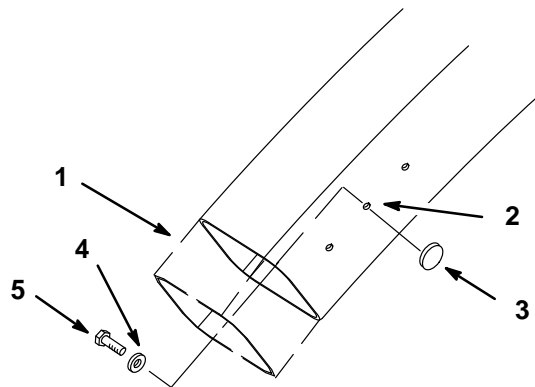

**Figure 5**
1. Install washers and spacers for bagger mount outside the tractor frame, using a 3/8 x 2” bolts and 3/8 lock nuts (Fig. 5).